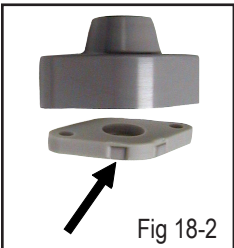

Fig 18-2
Step 1: Bolt bearing and Glove® base to machine frame. Note slot direction on base (see Fig 18-2).
Step 2: Snap Glove® cover over bearing assembly (see Fig 18-2).